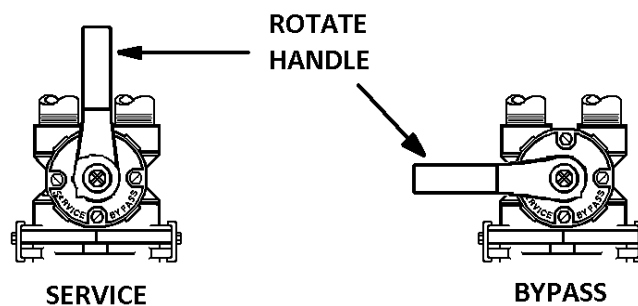

FIGURE 4: Stainless Steel Bypass Valve Operation
- STEP 9:** Place bypass valve in the "Bypass" position (refer to Figures 4 below). Open main supply valve or turn on power to pump on private well systems.
- Refer to Figure 4 (page 5) for appropriate bypass valve operation. Rotate bypass lever of the stainless steel bypass $\frac{1}{4}$ of the way to “Service” allowing unit to fill slowly. You should hear water trickling into the mineral tank. Filling the mineral tank in this position will force any trapped air to the drain. **When all air has been purged from the system and only water is running to the drain, slowly open the bypass valve fully to the service position.**